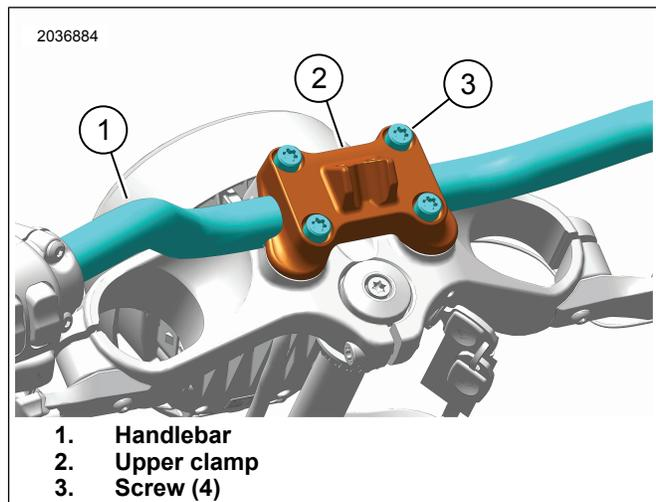

Figure 5. Upper Handlebar Clamp
6. See Figure 5. Remove four screw (3).
7. Remove upper clamp (2).
1. See Figure 5. Install upper handlebar clamp.
- a. Install upper clamp (2).
- b. Install four screws (3) loosely.
- c. Position handlebar (1) as marked during disassembly.
- d. Secure rear clamp screws (3) first and front clamp screws second (3). Tighten.